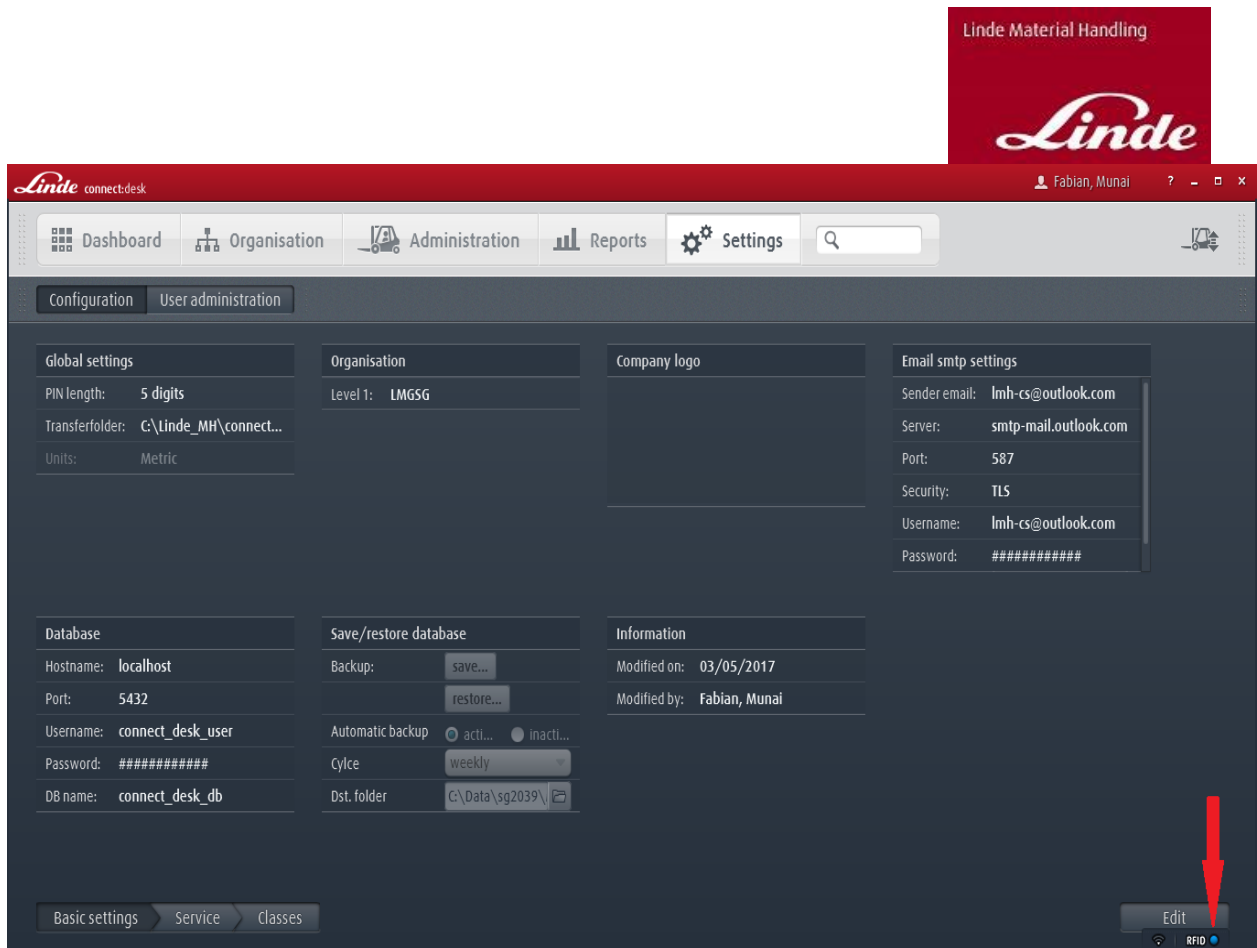

Figure 1-13: RFID indicator
7. Once the correct COM is select, the RFID indicator will change from RED to BLUE as shown in figure 1-13.